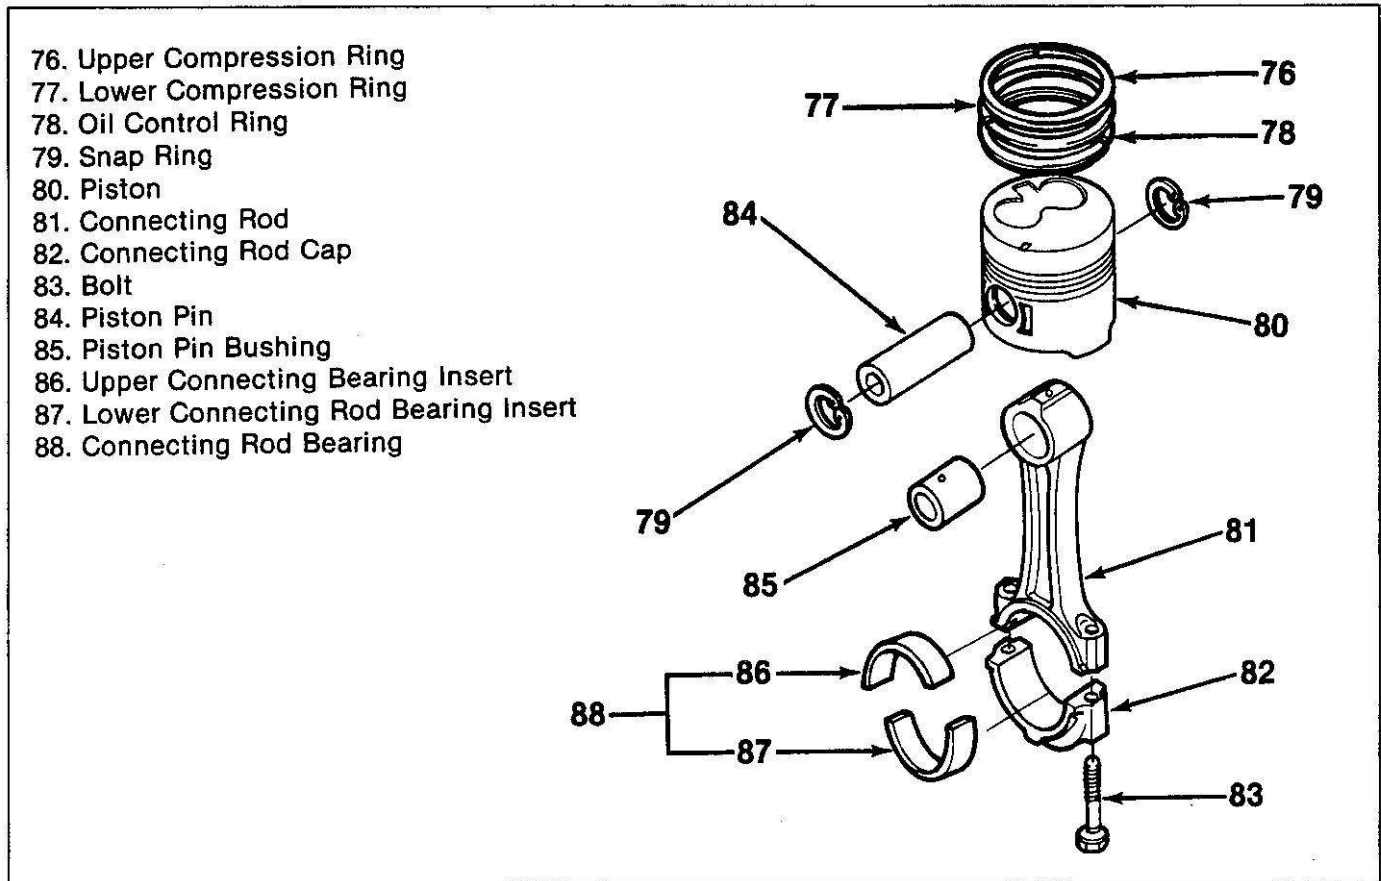
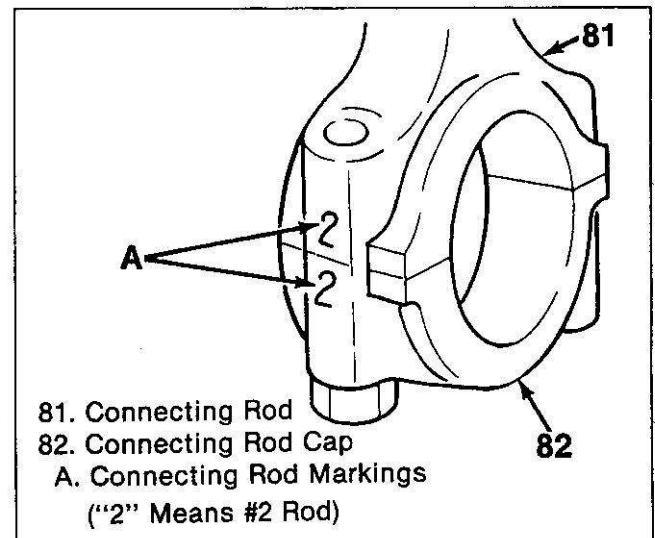

Figure 46. Piston, Connecting Rod and Components
Figure 47. Connecting Rod Markings
**Remove or Disconnect (Figures 46 and 47)**
2. Cylinder head (14) as outlined in "Cylinder Head" previously in this section.
3. Oil pan (134) as outlined in "Oil Pan Replacement" later in this section.
4. Bolts (83).
5. Connecting rod cap (82).
6. Piston (80) and connecting rod (81) as an assembly. If the piston is to be reused, mark the cylinder number on it so it can be returned to the proper cylinder as assembly. Be sure to keep the connecting rod cap (82), connecting rod (81) and connecting rod bearing inserts (86 and 87) together as a matched set. Numbers are stamped on the connecting rod and cap to help keep the parts together (figure 47).
**Disassemble (Figures 46, 48 and 59)**
2. Snap rings (79).
3. Piston pin (84). Heat the piston (80), if required, to aid in piston pin removal. Do not drive the piston pin out.
**Clean (Figure 46)**
- Piston (80) and rings (76, 77 and 78) in solvent. Do not wire brush the piston.
**Inspect (Figure 46)**
- Piston (80) for cracks and scoring.